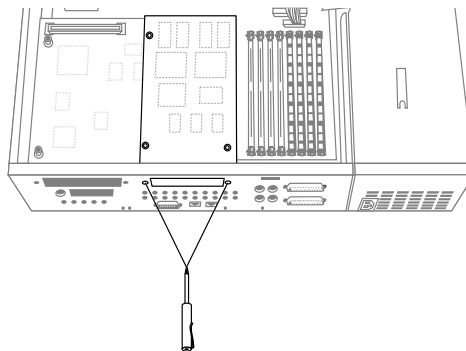

Figure 7 Removing the screws from the rear of the workstation
3. Using the Phillips screwdriver provided with this upgrade kit, remove the two screws from the GIO board connector on the rear of the workstation, as shown in Figure 7.